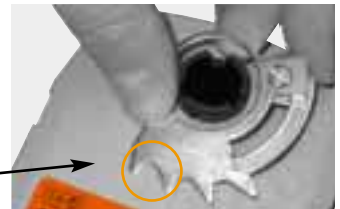

Figure 1.
1. Remove the stroke limiter by inserting a small screwdriver, like the one shown, and gently prying upward. This procedure takes very little force. See Figure 1.